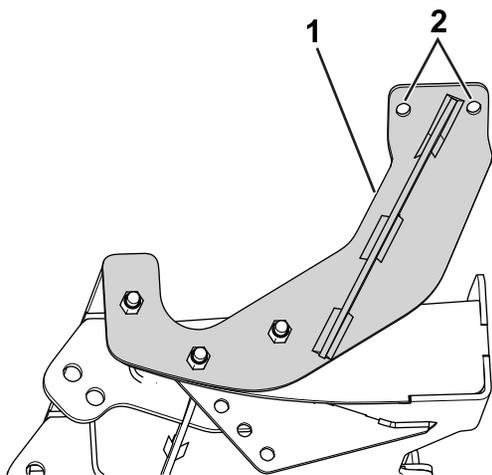

Figure 4
- Using the upper holes of the side plates, drill two holes (3/8 inch) into the inner fender wells (Figure 4).